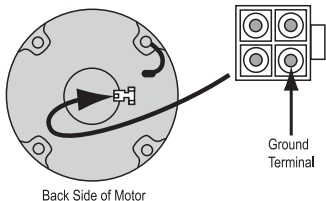

Figure 15
5 Inspect connector on back side of motor for bent, damaged, or recessed wires and terminals [Figure 15].
6. Check phase to phase resistance between each of the three phase terminals in the motor connector. **Do not check the ground terminal during this test** [Figure 15].